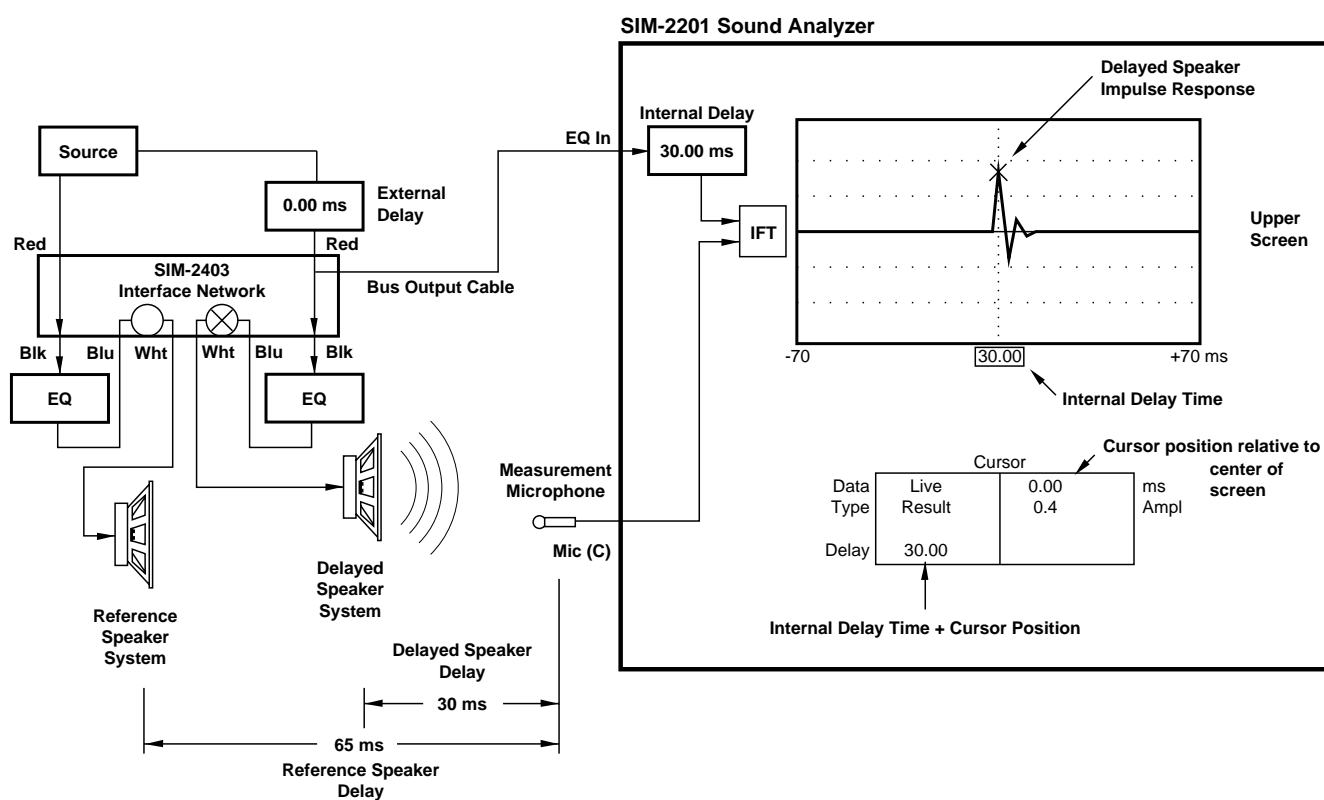

Figure 47b — Before Setting External Delay. Press F3 to Autoset Internal Delay Time.
- 4) Set the Internal Delay Time for the Delay Branch to compensate for the propagation delay between the Delay speaker and the microphone by using **F3**. The display should appear as shown in Figure 47b.